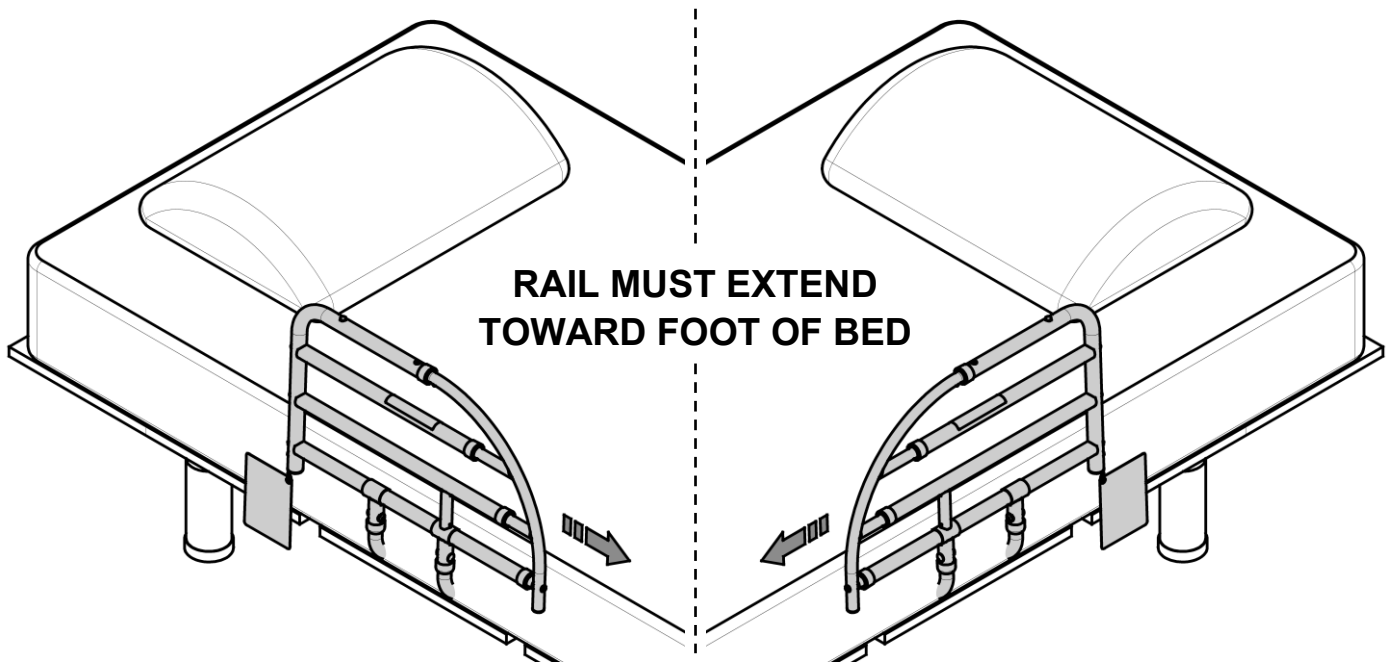

FIGURE 2
- Determine which side of the bed the product will be installed on; the Extendable Side will always be closest to the Foot of Bed. Instructions show assembly for left image in *FIGURE 2*. For opposite assembly, reverse rail.